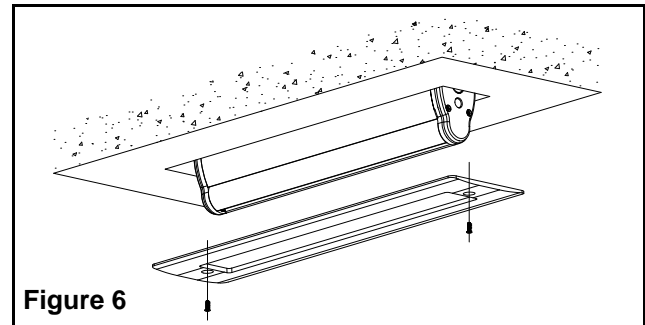

Figure 6
12. Connect the test switch connector and insert the LED indicator into the trim plate, (Self-power models only) then secure the trim plate by using the provided screws (see figure 6).